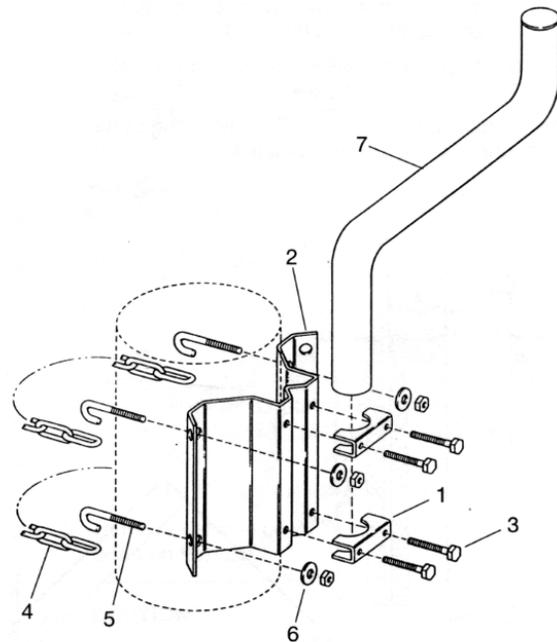

Figure 1
- A. Install the casing mount on the well (Figure 1):